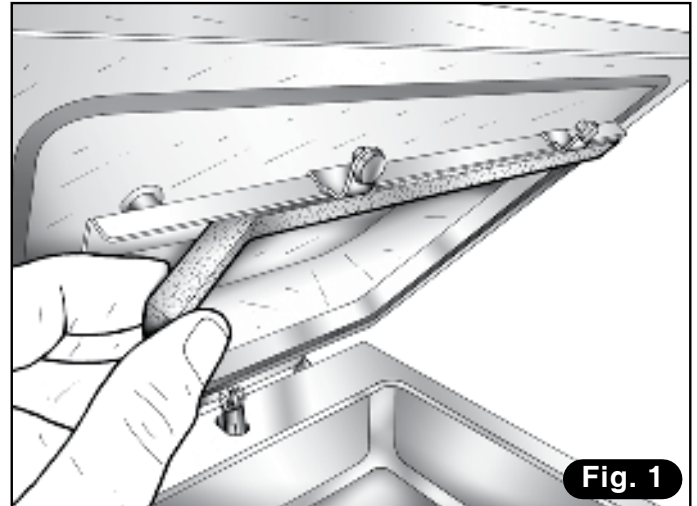

Fig. 1
- 2) Remove the silicone profile on the offset bar (Fig. 1).